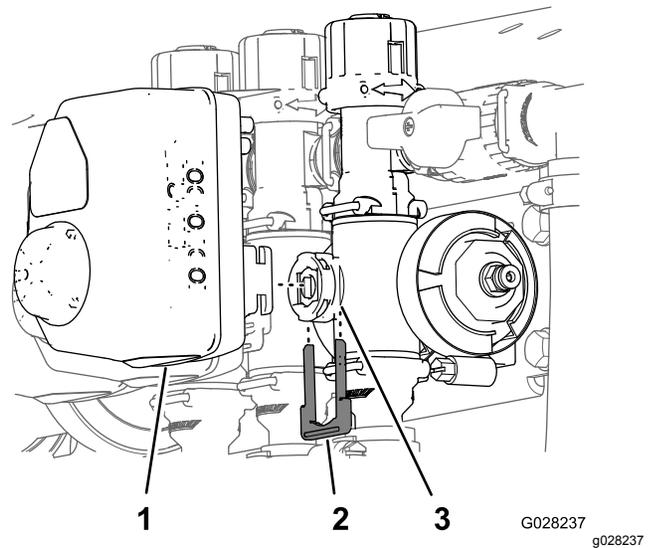

Figure 61
3. Remove the retainer that secures the a actuator to the manifold valve for the rate control, agitation, master boom, or boom-section valve (Figure 61).